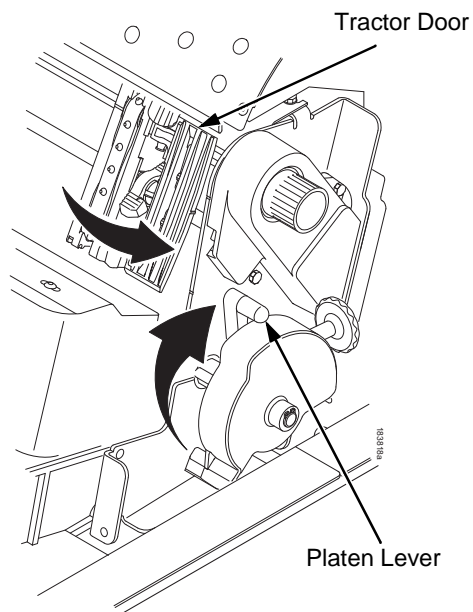

Figure 13. Raising the Platen Lever
2. Raise the platen lever as far as it will go (see Figure 13).